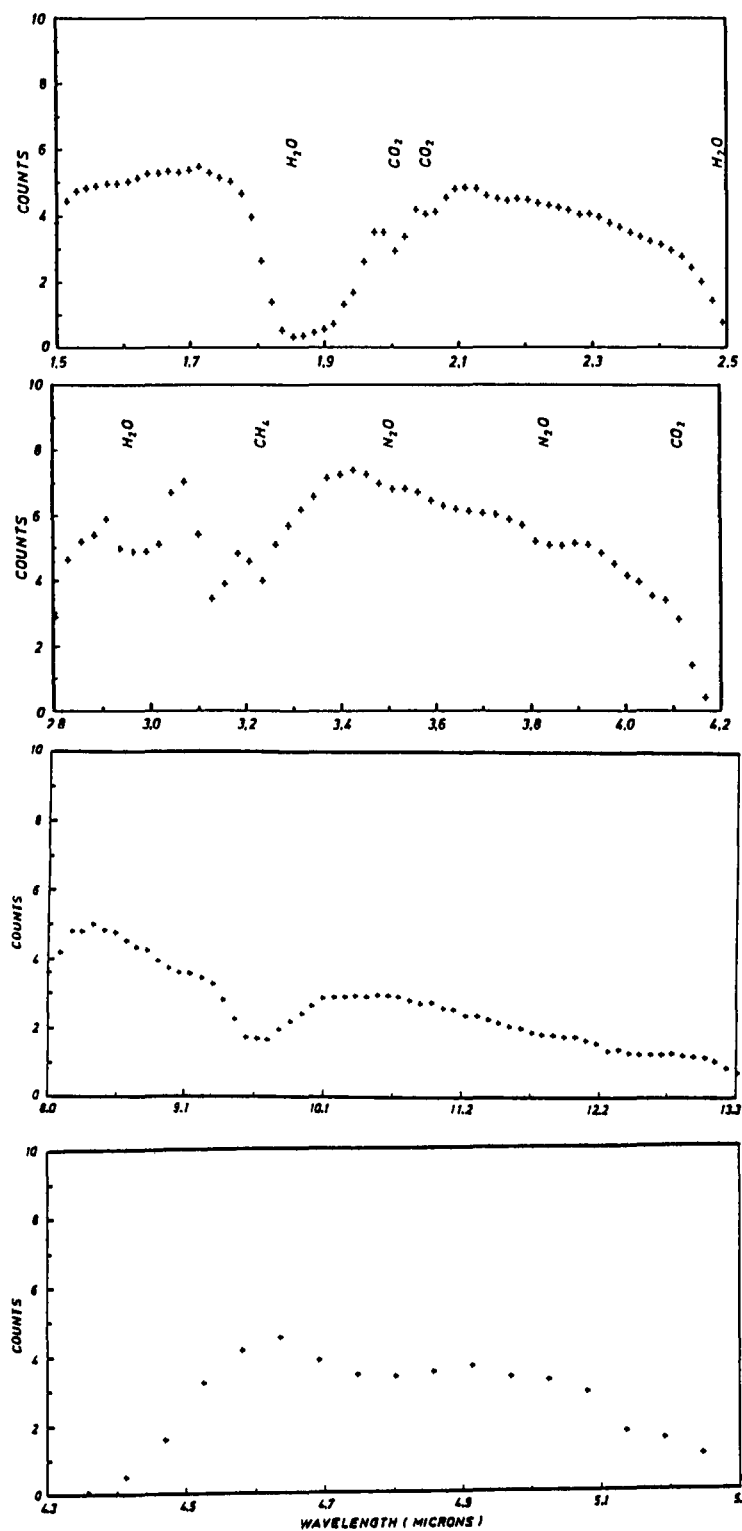

Figure 8.1: Typical standard star spectra for the four CWFs
e.g. LCVF,2,2.6,3.0,15 means that CVF2 will move automatically and stop at 15 equally spaced positions between 2.6μ and 3.0μ . Pressing START moves the CVF to the starting wavelength. A second START will initiate the automatic sequence. The time spent at each position is determined by the requested IT,CYCL,DELAY and PAUSE as in photometry. *Do not forget to take into account the atmospheric transmission when setting your CVFs.* Fig. 8.1 shows typical standard star measurements for the four CVF ranges.